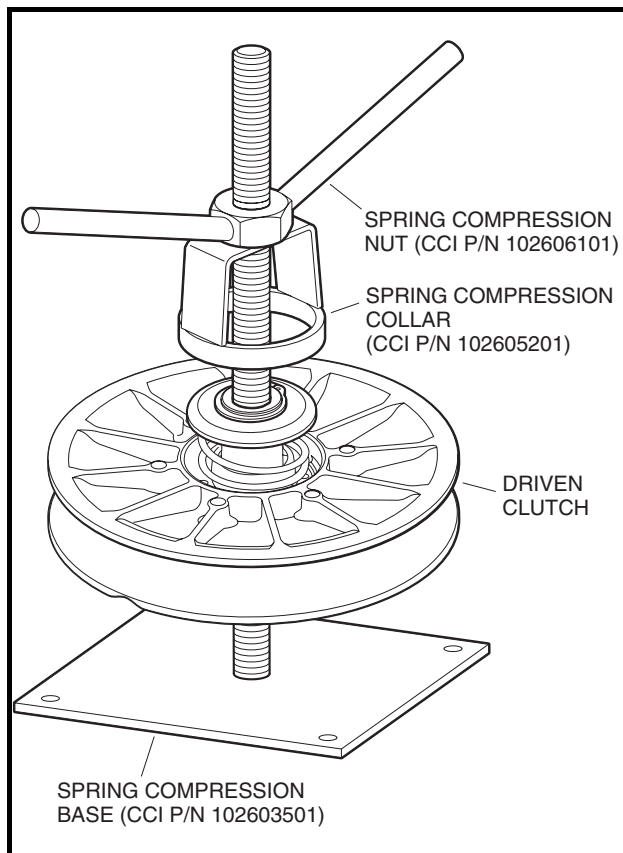

Figure 13a-36 Driven Clutch Service Tools
1. Place the driven clutch onto the Spring compression base (CCI P/N 102603501) (**Figure 13a-36, Page 13a-39**).